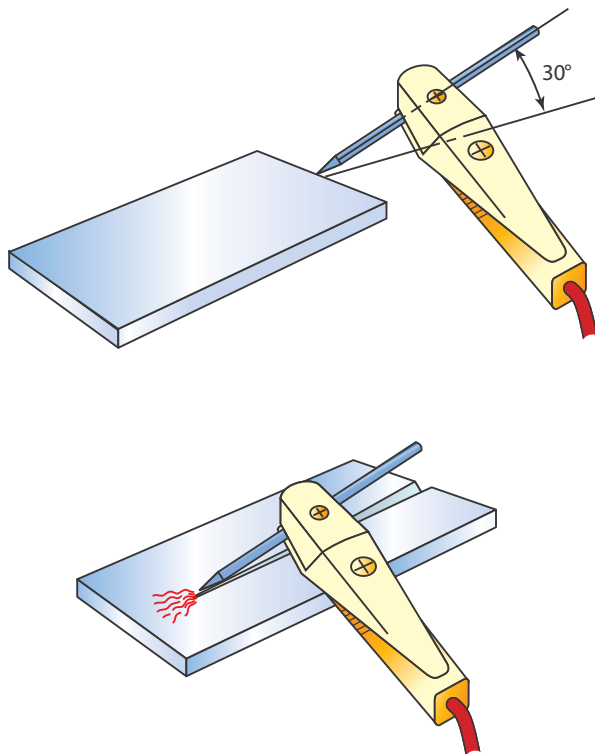

FIGURE 23-31 Air carbon arc U-groove gouging. © Cengage Learning 2012
8. Slowly bring the electrode down at about a 30° angle so it will make contact with the plate near the starting edge, Figure 23-31. Be prepared for a loud, sharp sound when the arc starts.